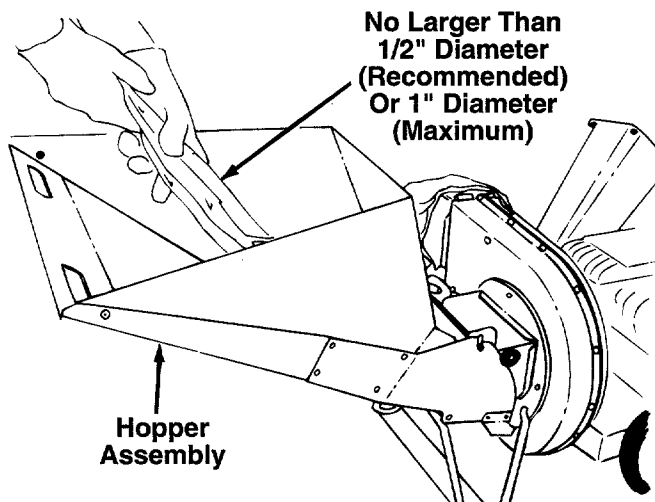

FIGURE 7.
- Leaves and small branches up to 1/2" diameter (recommended) or 1" diameter (maximum) can be fed into the hopper assembly when it is in the raised position. See figure 7. If it becomes necessary to push material into the chipper-shredder, use a small diameter stick—NOT YOUR HANDS. The stick should be small enough that it will be ground up if gets into the impeller assembly